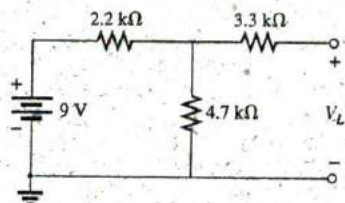

FIG. 6.110
41. For the network in Fig. 6.110: